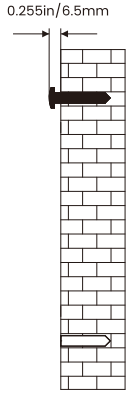
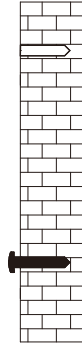

Figure 5
Figure 6
Step 3: For upright installation, nail the upper hole into the wall (**Figure 5**). For downward installation, nail the lower hole into the wall (**Figure 6**), then secure the appliance to the wall using the provided nail.